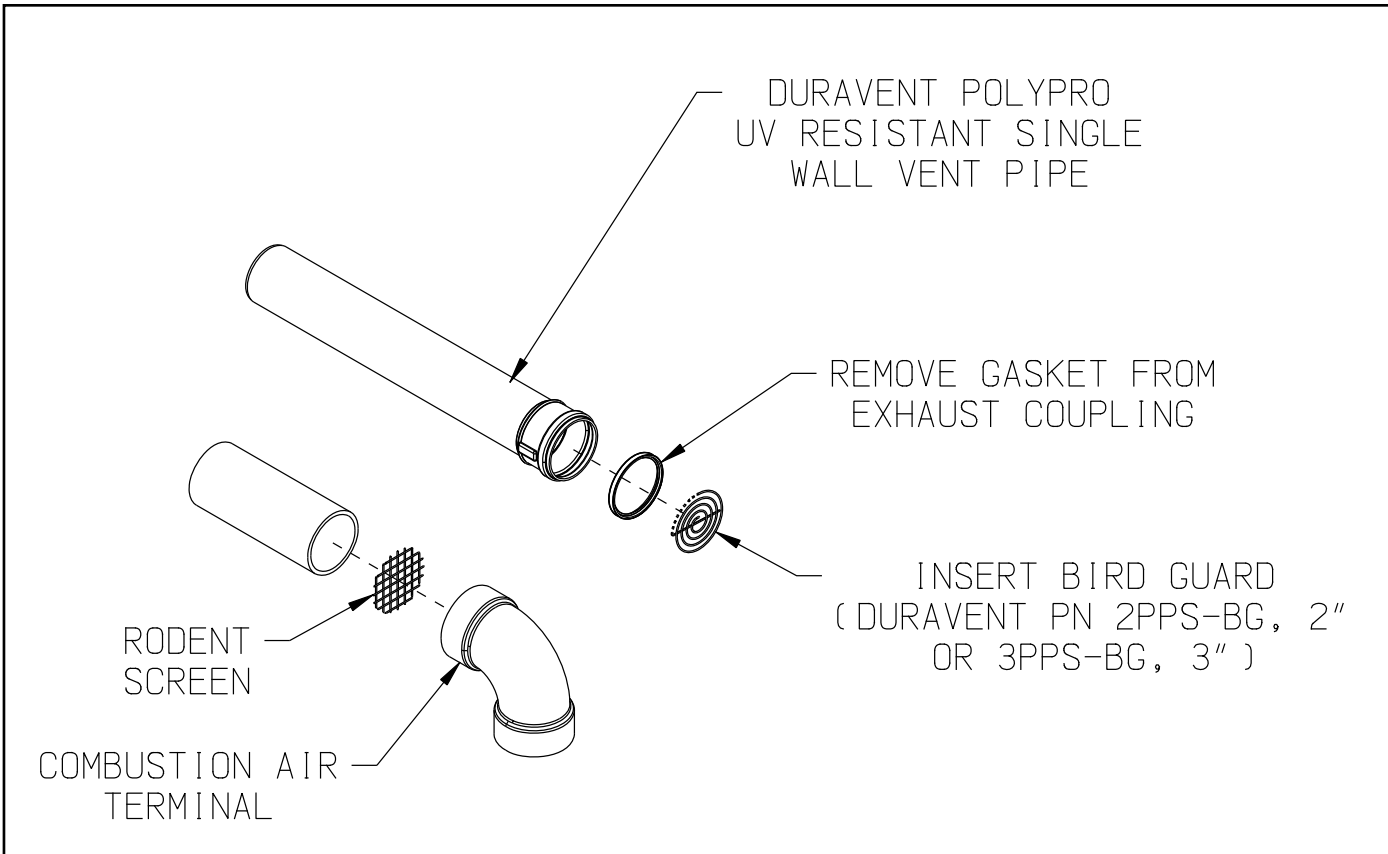

FIGURE 7.36: INSTALLATION OF DURAVENT POLYPRO UV RESISTANT SINGLE WALL HORIZONTAL TERMINAL
- a. See Figure 7.36 for proper orientation of twin pipe horizontal terminals. Outer edge of exhaust coupling must be 10" or less from the wall surface. (Figure 7.9)